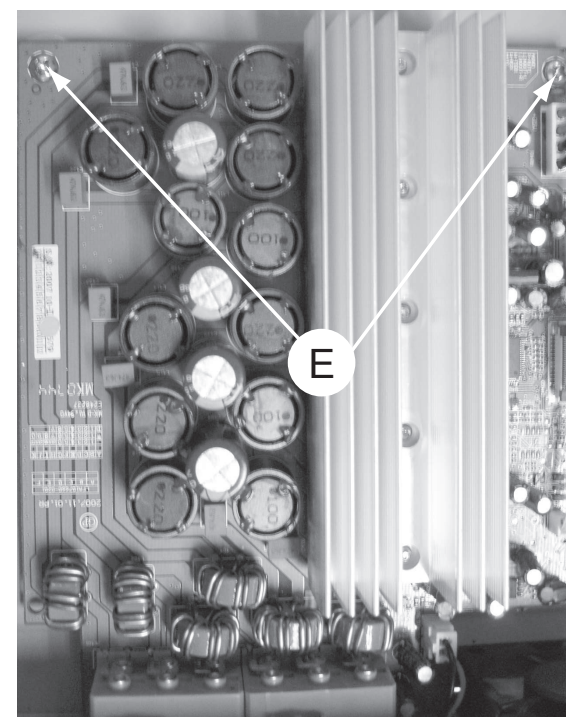

Figure 8
- 2 screws "E" on the top of AMP board as shown in figure 8